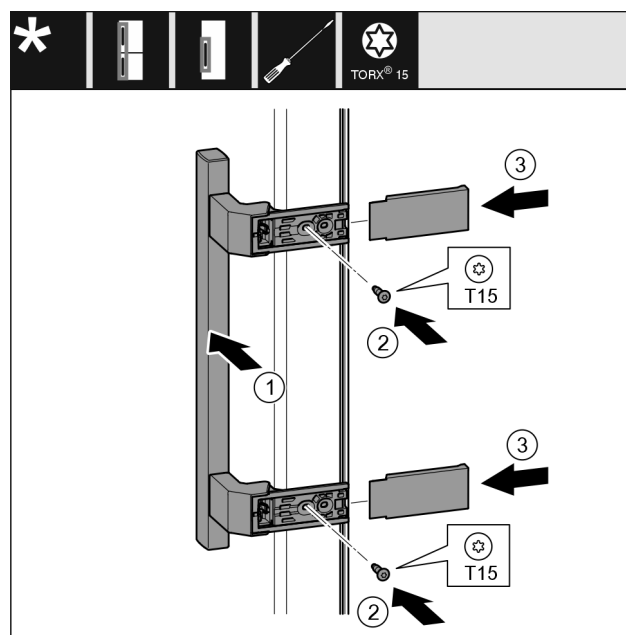

Fig. 20
- Attach the handle on Fig. 20 (1) the opposite side.
- Tighten the screws Fig. 20 (2) with the screwdriver.
- Attach the covers Fig. 20 (3) on the sides and slide them on.